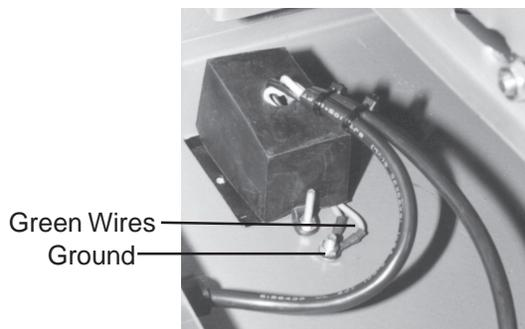

Figure 10
- Step 3) The cord from the Motor (#29A-Stand Assembly) contains three (3) different colored wires; White, Green and Black. The White wire from the Motor (#29A) is attached to the wiring box on the bottom lower left.
- Step 6) The ground is the lower screw as shown in Figure 10. The lower screw is inserted through the Jointer and is tightened into place by sliding on a Lock Washer and then a Nut. Do not tighten into place until both green wires are attached to the ground-see Figure 10 and 12.